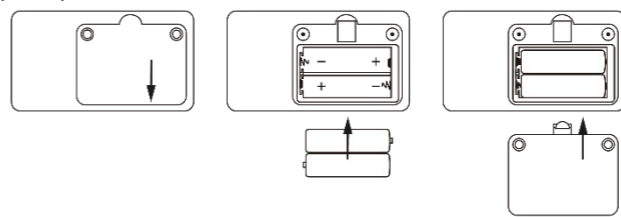

Figure 3. Batteries Assembly
- A. Refer to Figure 3. Use a screwdriver to unscrew the two screws from the battery compartment on the back of the product and open the back cover of the battery compartment.